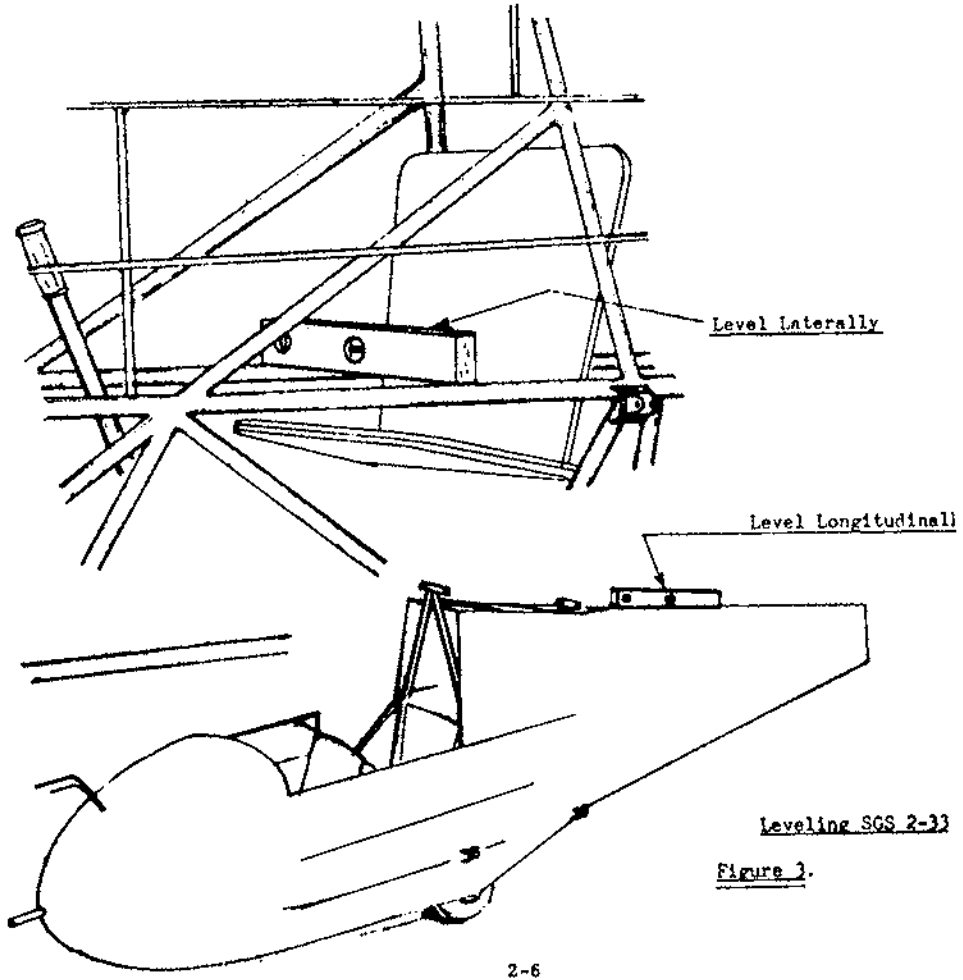

Figure 3.
- a. To level fuselage laterally, prop up the wing tips and test for horizontal on fuselage members, see Figure 3.
- b. To level longitudinally, prop up the tail and test for horizontal on the top longeron of fuselage aft of wing, see Fig. 3.